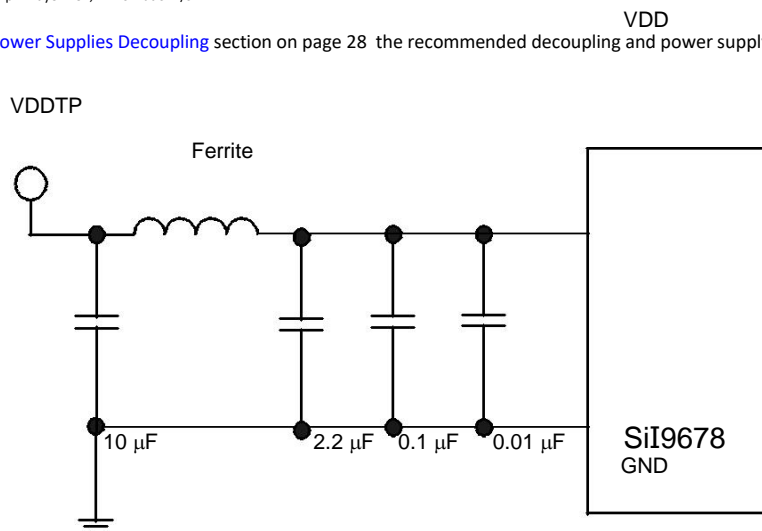

Figure 3.1. Test Point VDDTP VDD Noise Tolerance Specification
2. The supply voltage noise is measured in testing point VDDTP as shown in Figure 3.1. The ferrite bead provides filtering of power supply noise.